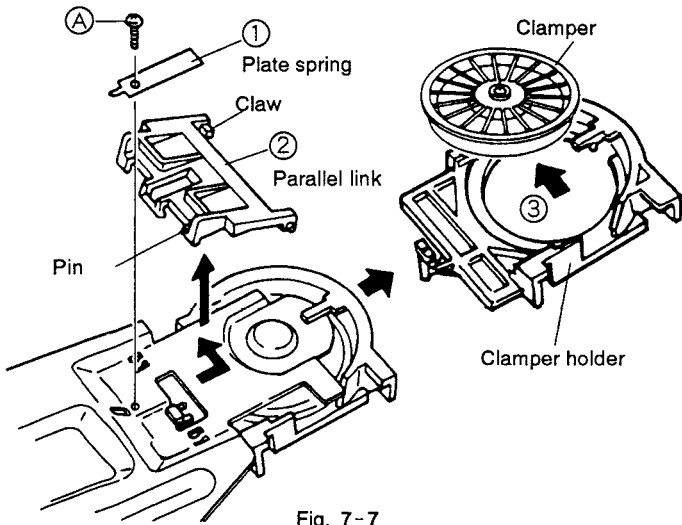

Fig. 7-7
7.5 REMOVING THE CLAMPER (Fig. 7-7)
- ① Remove the plate spring by unscrewing screw (A).
- ② Remove the parallel link by sliding it in the direction of the arrow. (Be careful not to damage the claw located on one side of the link.)
- ③ The clamber can be removed by sliding the clamber holder in the direction of the arrow.